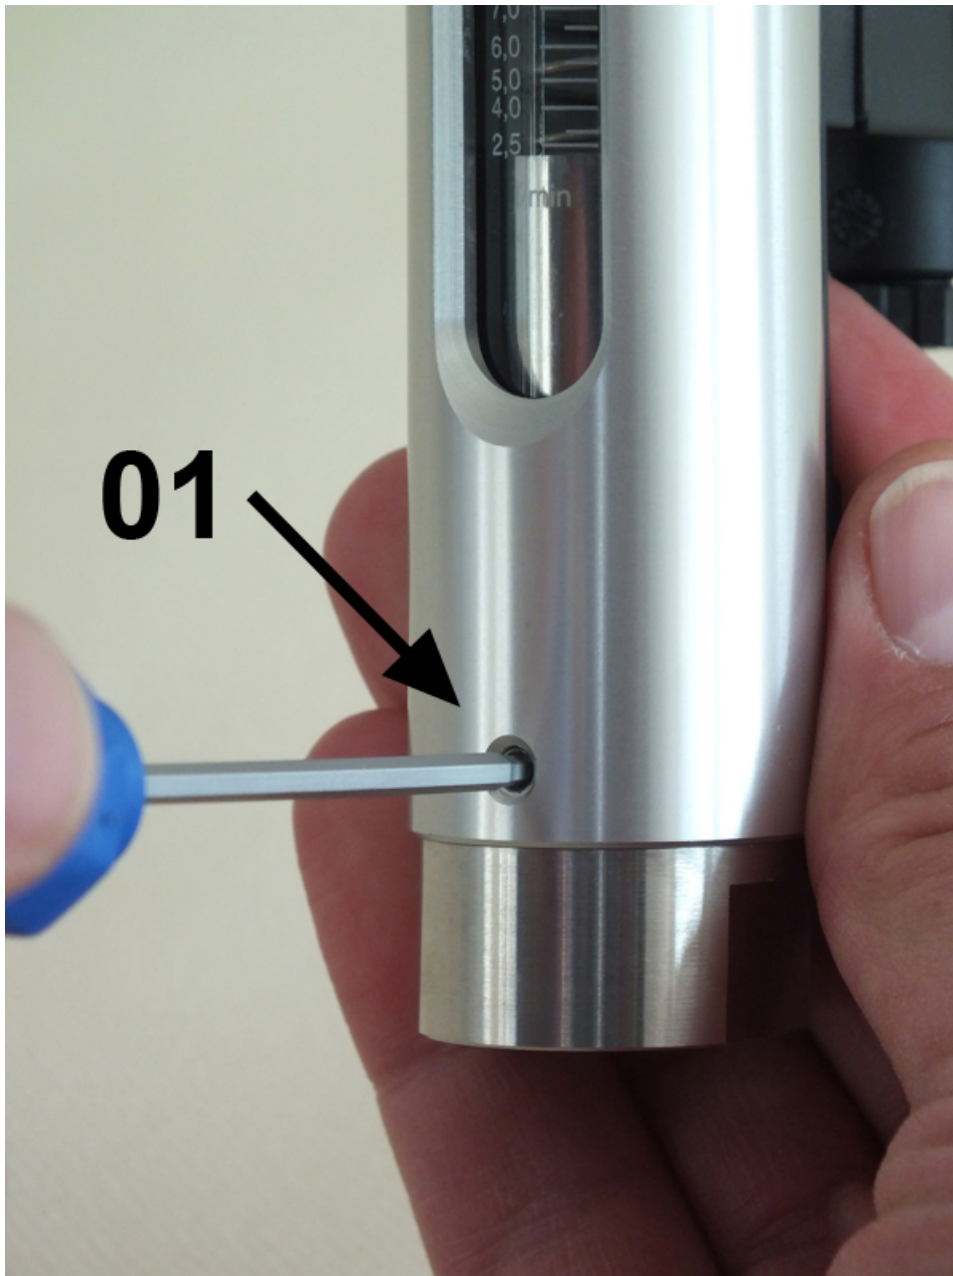

Fig. 37: Loosen screws
- 3.** ➤ Secure the device with one hand to ensure the sight glass does not slip out. With the other hand, loosen the lower 3 hex head screws (*Fig. 37/01*).